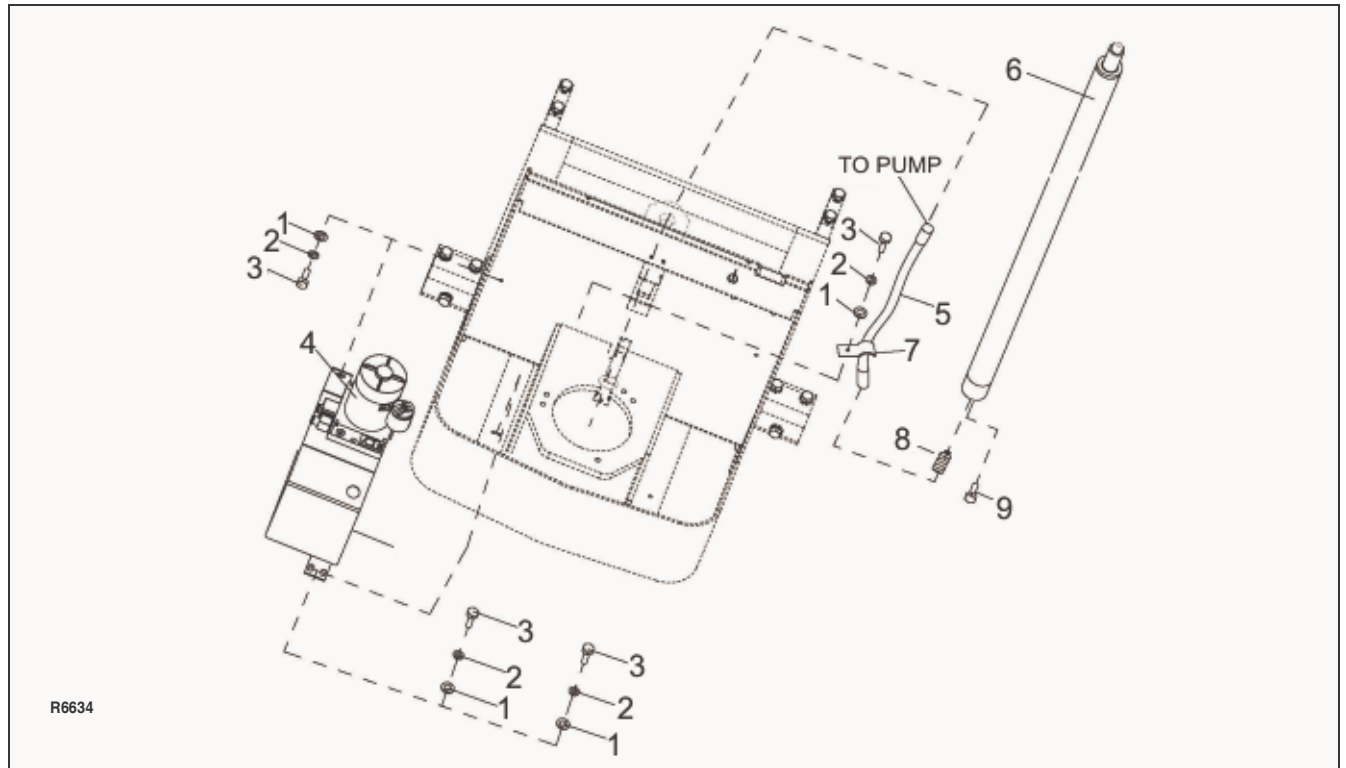
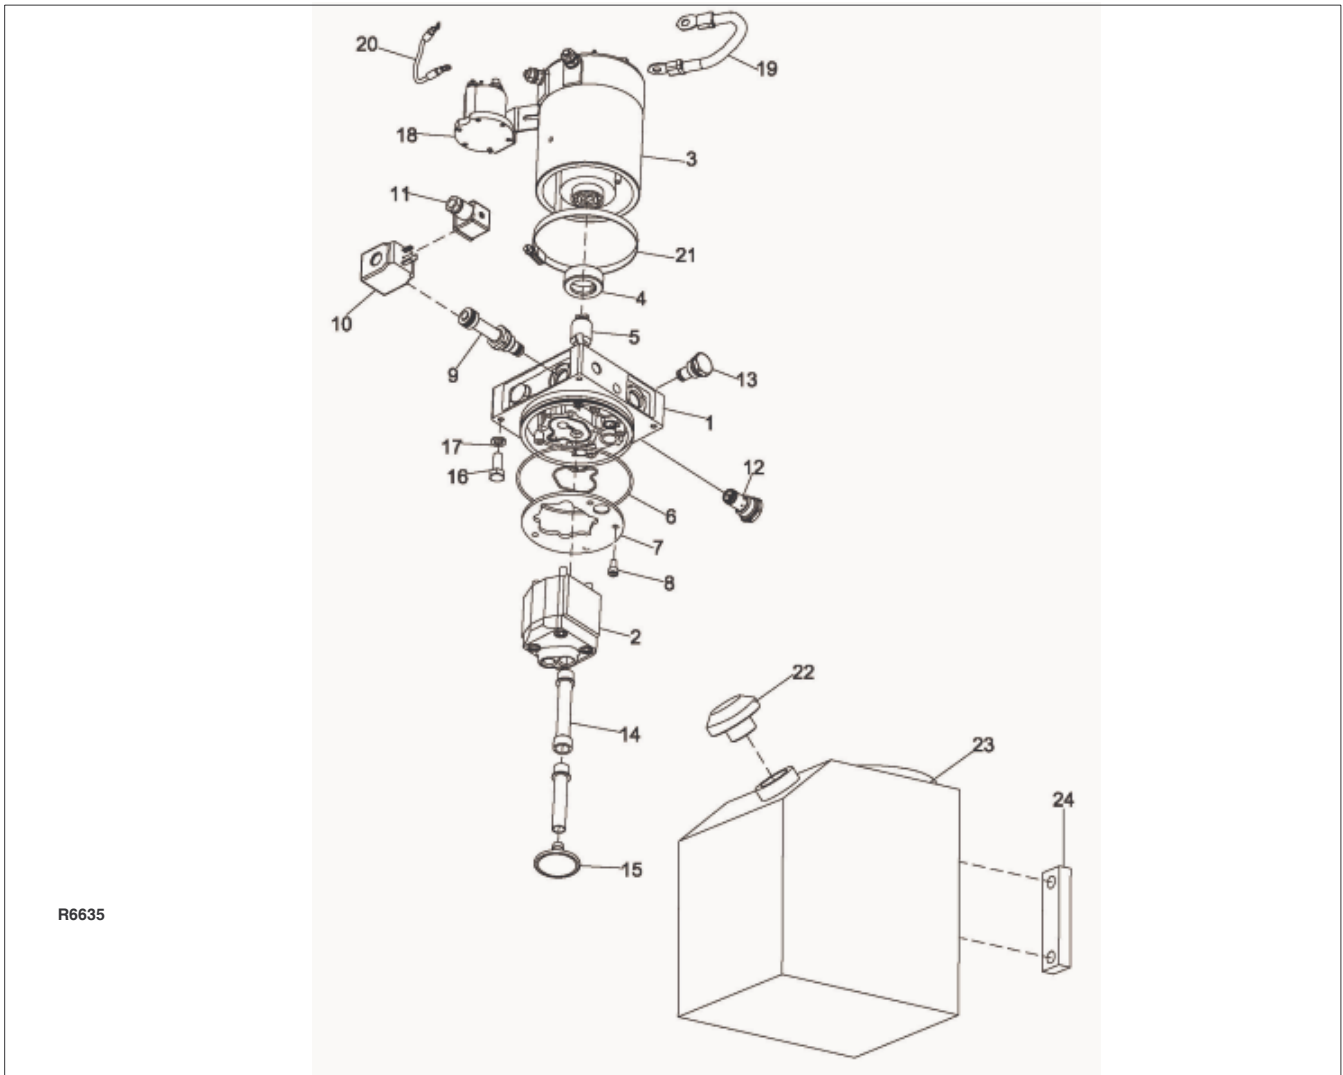

Figure 9-1 Hydraulic System (Telescopic)
Figure 9-3 Pump & Motor Assy
4. **Telescopic Trucks:** Refer to Figure 9-1 and remove leaking line or fitting and replace it with a new line or fitting.
4. Tag and disconnect electrical leads from motor (3, Figure 9-3) and solenoid (10).
5. Disconnect hose (5, Figure 9-1) from pump/motor assembly (4).
6. While supporting the pump/motor assembly (4), remove four screws (3), two washers (2) and two flat washers (3).
7. Remove the pump/motor assembly (4).
2. Refer to Figure 9-3 for disassembly and reassembly.
3. While supporting the pump/motor assembly (4, Figure 9-1), install four screws (3), two washers (2) and two flat washers (1).
4. Reconnect hose (5) to pump/motor assembly (4).
5. Connect electrical leads to motor (3, Figure 9-3) and solenoid (12).